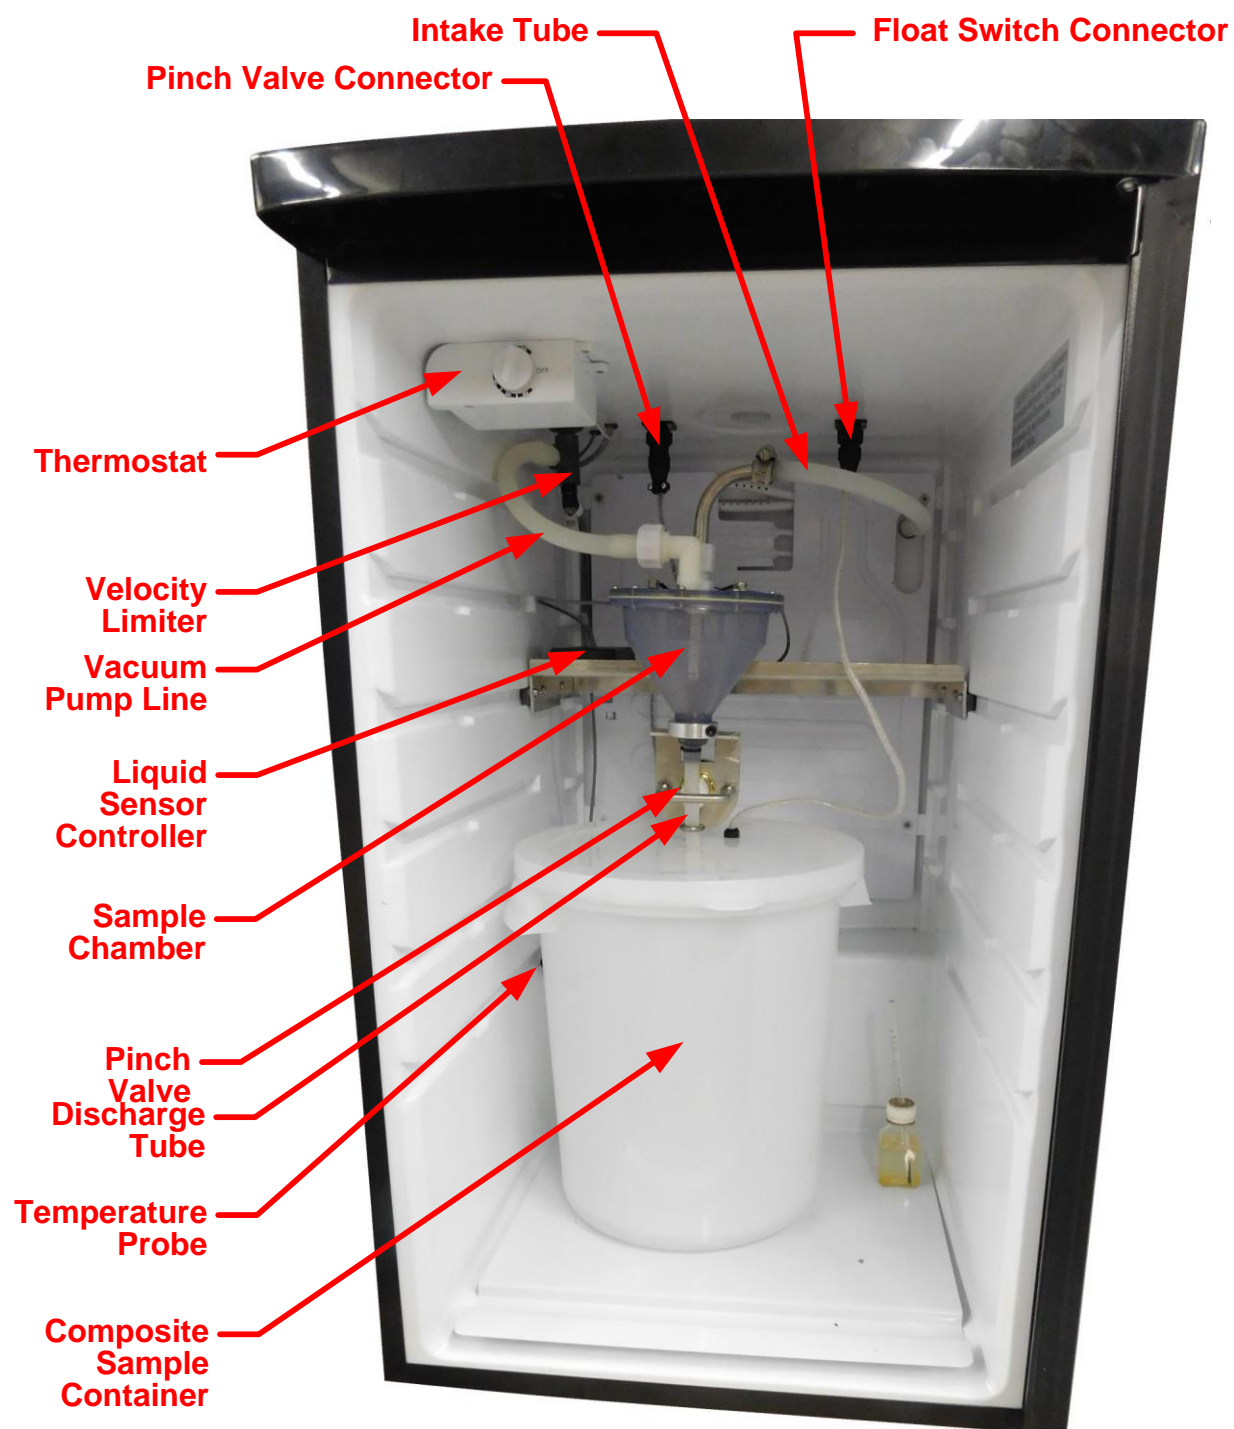

Figure 1-1: Century 3000 CVE-16 Sample Compartment
- **Composite-storage** systems deposit all samples into a single large container equipped with a liquid-level float that trips the sampling program when the container fills up (such as the 5 gallon container shown in Figure 1-1 on page 15).
If desired, you can slow the rate at which wastewater is drawn into the chamber by opening the velocity-limiting valve two or three turns. That valve is located just to the left of the sample chamber, in the middle of the tube leading from that chamber to the vacuum pump (as shown on Figure 1-1 on page 15).